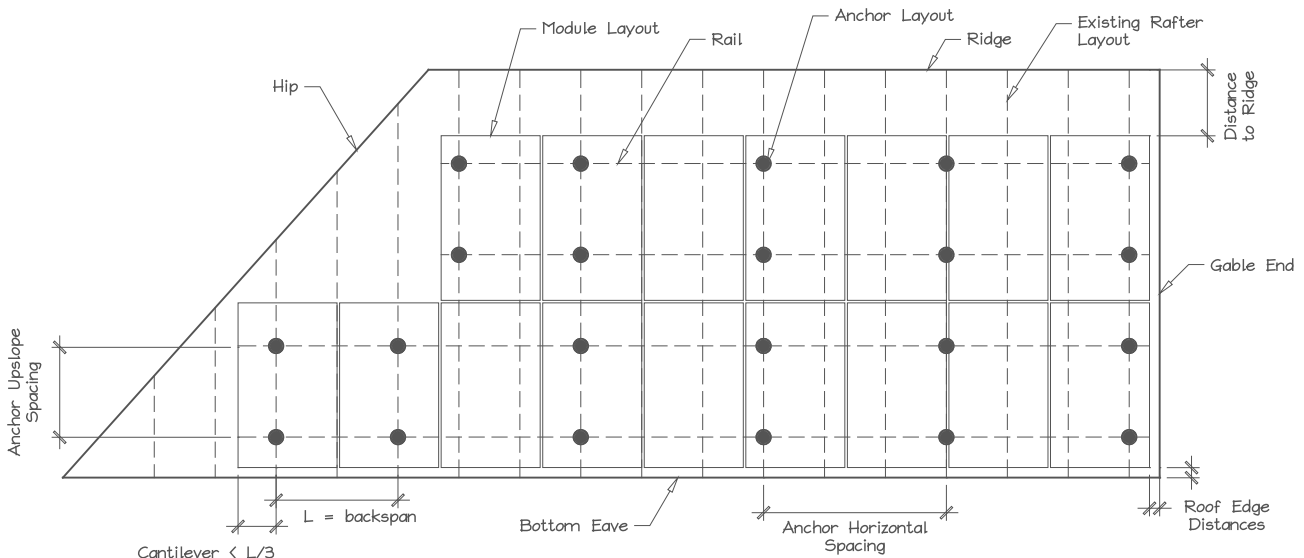

Figure 2. Sample Solar Panel Array and Anchor Layout Diagram (Roof Plan).
E. Is a roof plan of the module and anchor layout attached? (see Figure 2) Y N
- 1) Proposed anchor horizontal spacing (see Figure 2): _____' - _____"ft-in
1. Anchors are also known as “stand-offs,” “feet,” “mounts” or “points of attachment.” Horizontal anchor spacing is also known as “cross-slope” or “east-west” anchor spacing (see Figure 2).